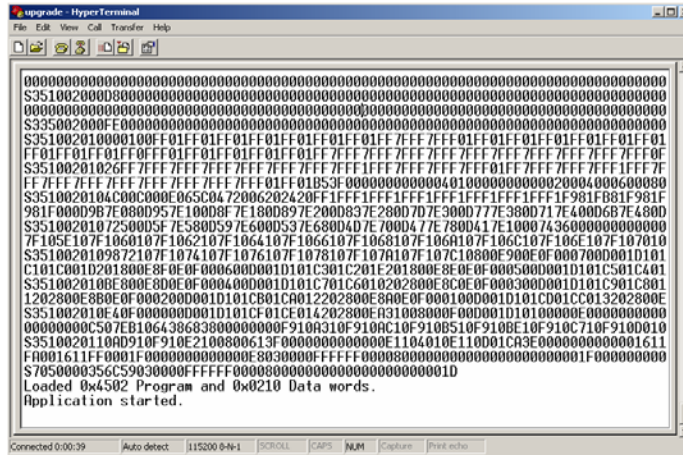

Figure III.6 Successful PMS5005 Firmware Upgrade
12. When the download is started, hex numbers will appear on the screen if you have turned on the "echo" option as described in step 6. Otherwise, you will not see anything but the download is still running. When the firmware download is completed (takes about 20-60 seconds, depending on the speed of your PC), you will see the "Application Started" keyword as shown in Figure III.6 no matter the "echo" option is turned on or off. The new downloaded firmware will automatically start in few seconds and you should see some un-recognized characters